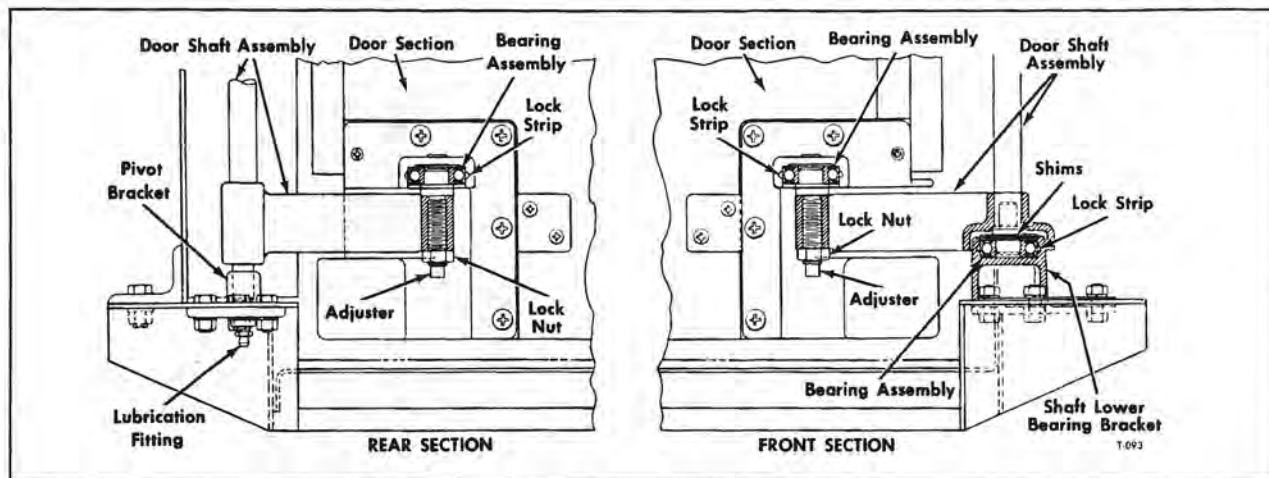

Figure 9—Front Door Lower Pivot Bearings Installed
5. Height of door halves in coach opening is adjustable (fig. 9). A threaded adjustable pin is used at locations indicated.